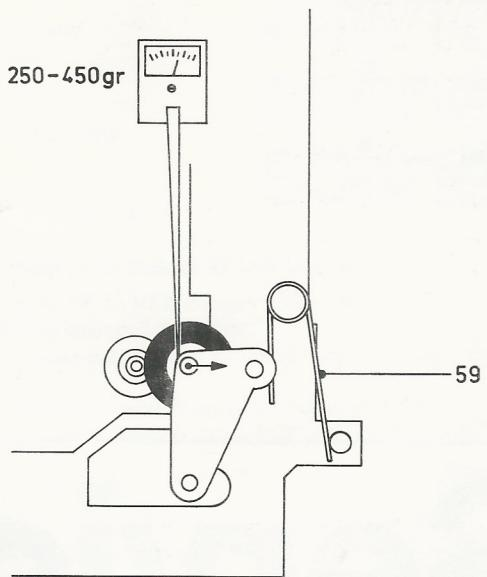

Fig. 2
3. Pressure roller (refer to Fig. 2)
3. Drukrol (Fig. 2)